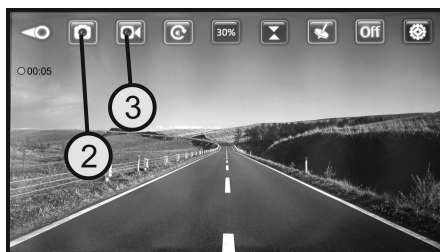

Figure 24
- A red dot appears at the top left of the display and the duration of the recorded video is displayed (see also Figure 24).